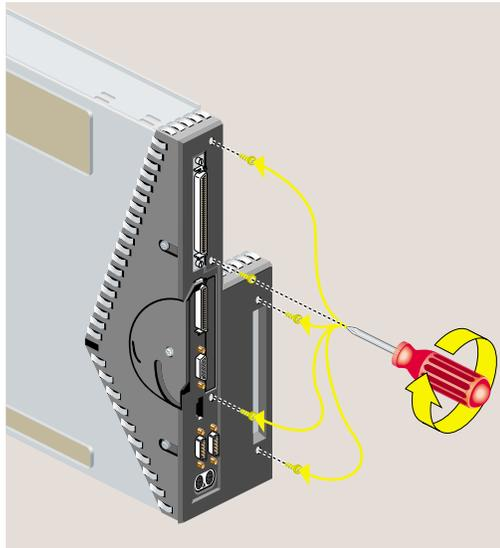

Figure 15 Replacing Five Screws on the Face Plate
21. Use a Phillips screwdriver to insert and tighten five screws in the locations shown in Figure 15.